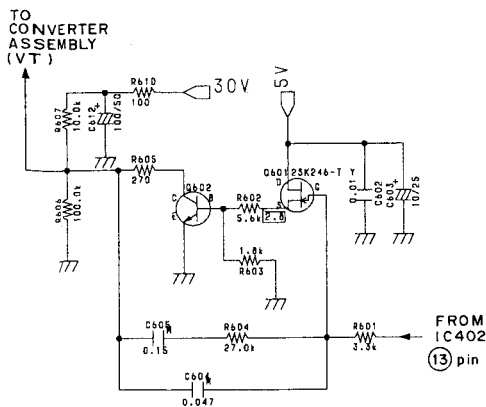
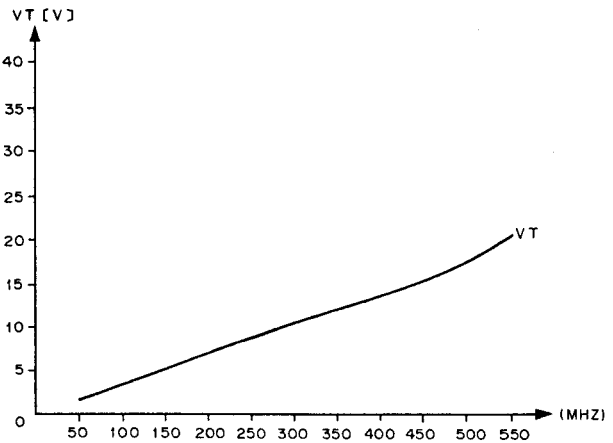

Fig. 22 Loop Filter
Fig. 23 VT-f Characteristic
by IC402 and after comparison a signal (PD) is sent from IC402 pin 13 to the loop filter Fig. 22. The loop filter consisting of Q601, Q602 and associated circuitry generates a Tuning Voltage (VT) which is sent to the Converter Assembly for controlling the 1st Local Oscillator Fig. 23.